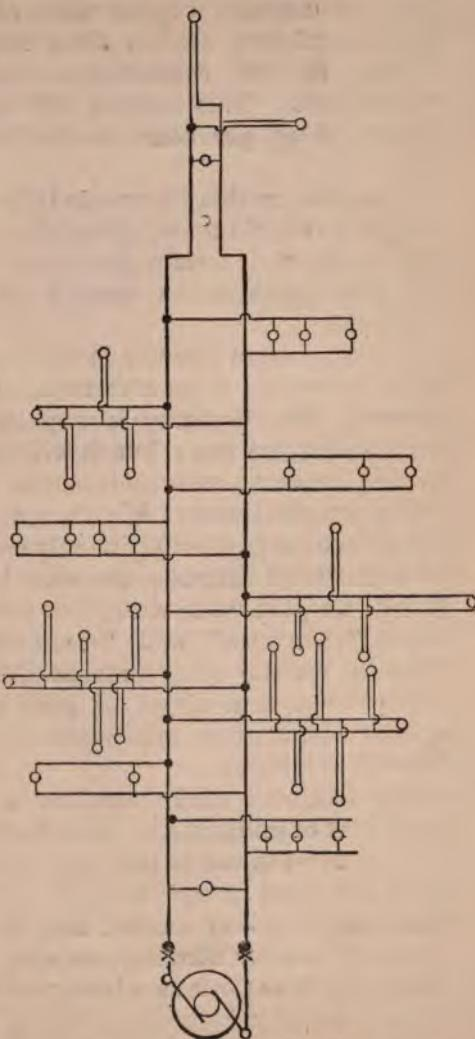

Fig. 53.—Diagram of the Tree System.
*The Tree System.*—Professor Forbes \* has given the name “tree system” to the plan represented in the diagram Fig. 53. Here we have the connections to the mains—street or dynamo—with “main fuses” and key switches—at the root of the tree. Thence lead a pair of sub-mains, forming its stem, throughout the main length and breadth of the building. From them spring “branches” or room circuits, and from these “twigs” or single lamps, representing the leaves.